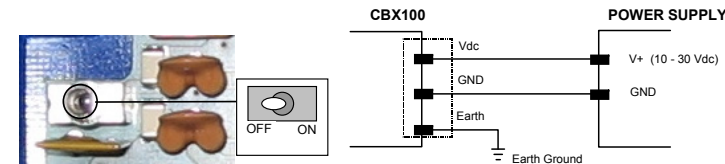

Figure 3 - Power Switch ON/OFF Positions and Connections
Switch ON the CBX100 LT power switch (see Figure 3). The Power LED lights (blue) when the power connection has the correct polarity. The Power LED lights (red) in case of wrong polarity.
The power switch (see Figure 3) switches the power supply ON or OFF for both the CBX100 LT and the connected reading device.
- 2) Verify that the CBX100 LT power switch is off (see Figure 3).